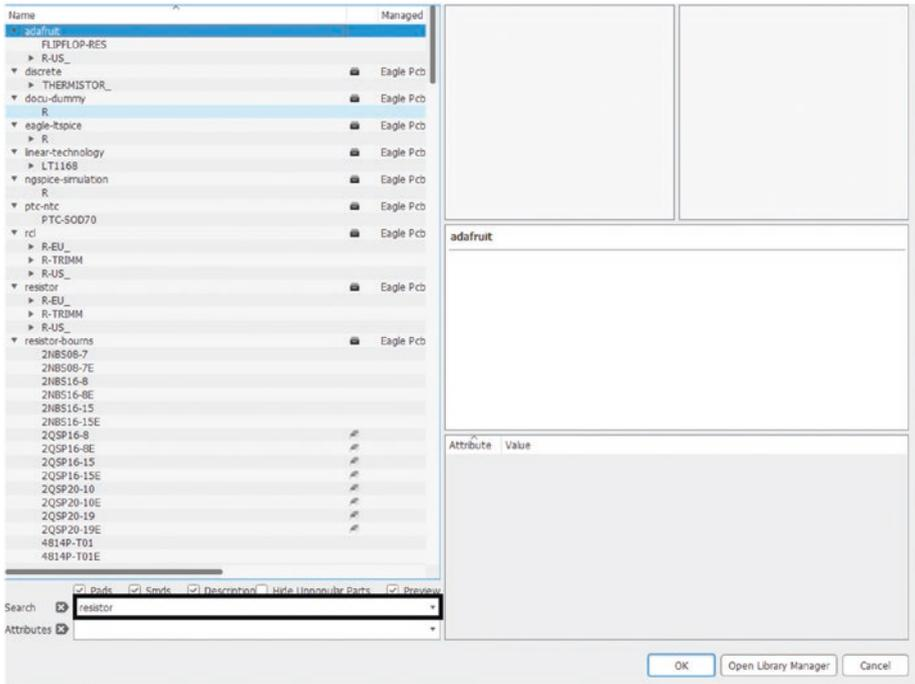

Figure 5-38. Search resistor
- 25. Click the ADD button again and type in resistor into the search box and press enter. See Figure 5-38.